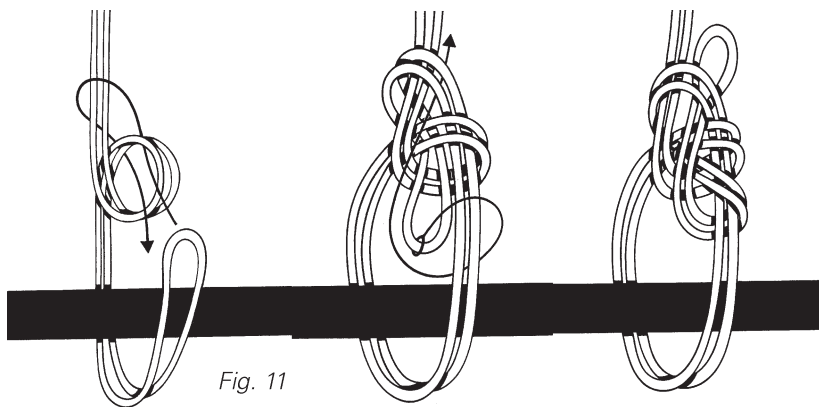

Fig. 11
**1** Note that the tucked bowline can also be tied on the bight and the working end forms a loop to which a belay device can be attached, which makes the knot quite secure (Figure 11; Chisnall, 1985).